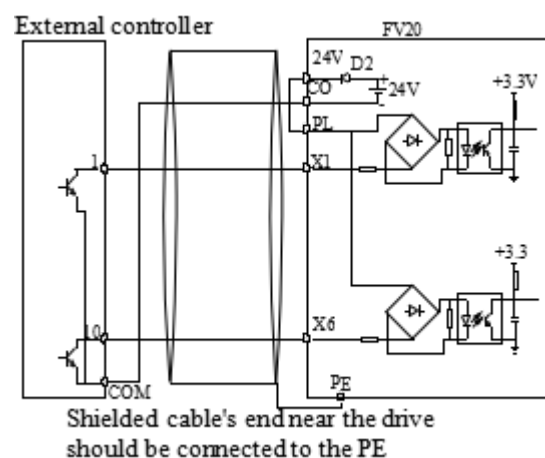

Fig.4-9 Use internal power supply for Source connection
1) Use internal +24V power supply of VFD and the external controller uses NPN transistors whose common emitter are connected, as shown in the fig.4-9"